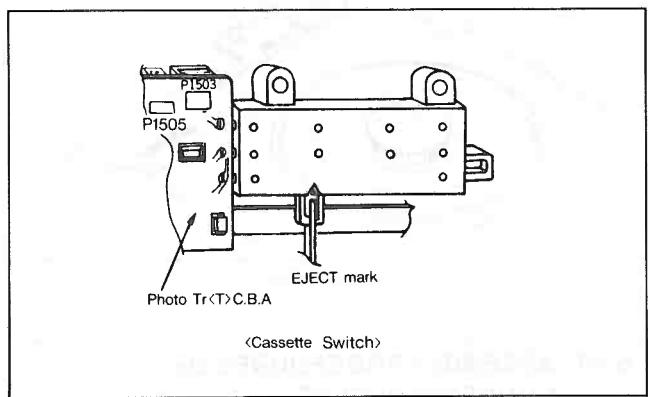

Figure M60
1. Confirm that the Cassette Compartment is aligned properly. In the EJECT position (Cassette Holder up and advanced to the front) the two V-shaped marks on the slide switch should align. The slide switch is located on the right side of the Cassette Assembly towards the rear as shown in Figure M60.